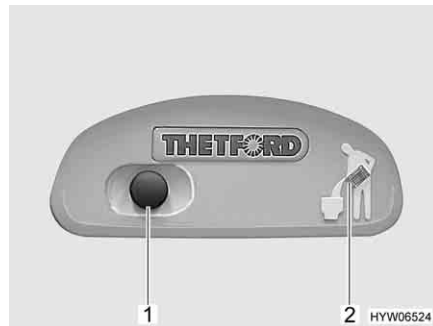
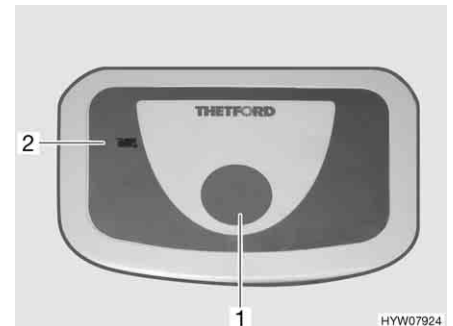

Fig. 254 Flush button/indicator lamp Thetford toilet
Fig. 255 Flush button/indicator lamp Thetford toilet (alternative)
- For flushing, press the blue flush button (Fig. 254,1 or Fig. 255,1).
The indicator lamp (Fig. 254,2 or Fig. 255,2) goes on whenever the sewage tank has to be emptied.